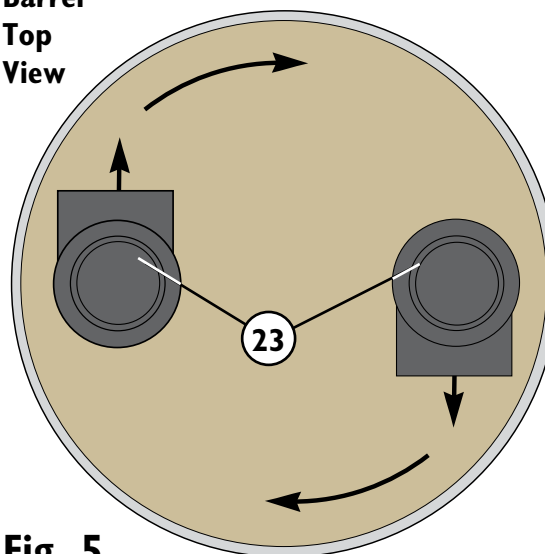

Fig. 5
3. Position ports in opposite directions as shown in **Fig. 5.**